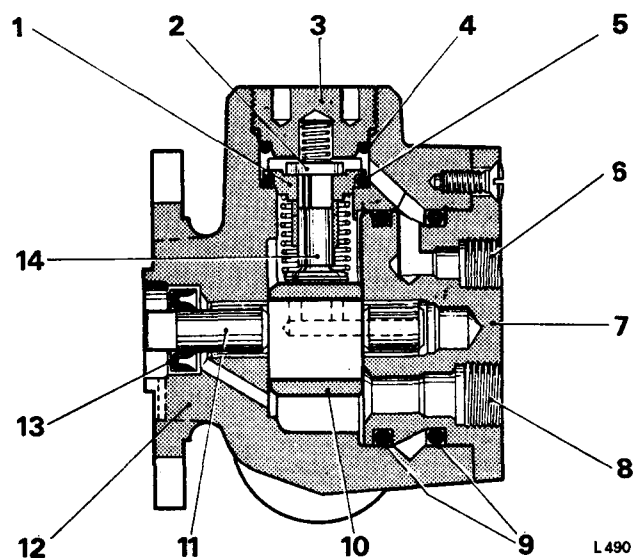

FIG. S72 SECTIONAL VIEW OF THE PUMP
The pump comprises three radial plungers, each being spring-loaded and reciprocating in its own liner. The plungers are operated by a central camshaft through a concentric bearing ring (see Fig. S72).
When removing a pump plunger, always retain each plunger with its respective liner (*see Fig. S72*). Never fit a new plunger in an old liner or vice versa. When necessary renew them as a set together with a new disc valve.
The drive shaft should rotate freely when the drive end is turned with the aid of pliers, if the pump shaft will not rotate freely (with the aid of pliers), dismantle the pump and examine the journal bearing bushes; renew the pump body or end housing, if the bushes are damaged or severely worn. Also, examine the cam ring (*see Fig. S72, item 10*) and renew if scored or worn.